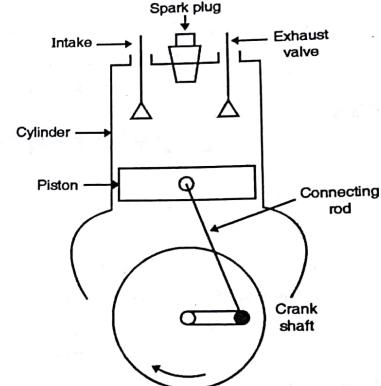

Fig. 3.8.1 : Spark in engine initiating combustion
- In internal combustion engine, a mixture of gasoline vapours and air is used as a fuel. The combustion or burning of a fuel is initiated by a spark in the cylinder as shown in Fig. 3.8.1.